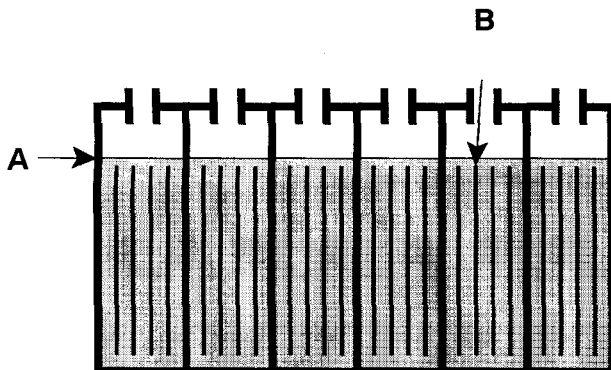

FIG. 23
- Check electrolyte level (A) in each battery cell. Do not charge batteries unless electrolyte is slightly covering battery plates (B). If needed, add just enough distilled water to slightly cover plates. DO NOT overfill. Batteries can overflow during charging due to expansion. Replace cell caps before charging (Figure 23).